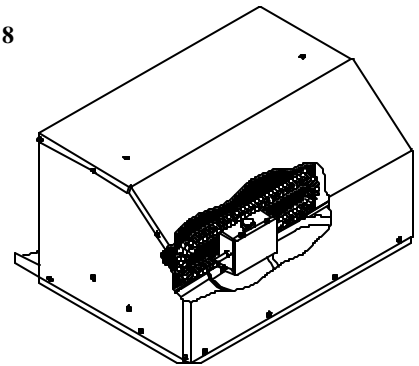

FIGURE 9
2. Position the heater assembly into the return air opening as shown in Figure 9. Insure that the set screw is retracted sufficiently to allow installation over the basepan extrusion.